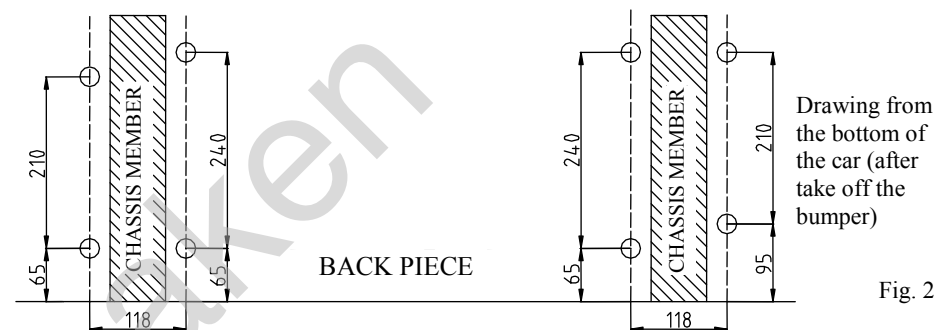

Fig. 2
- Point out holes from the bottom of the car according to the fig. 2 (above). Then drill holes  $\varnothing 11\text{mm}$  (drillings fall out in places of the pressure welding of chassis members with the floor of the car) – make carefully and precisely.
- Apply properly large fish-plates (pos. 4 and 6) onto made holes (inside the trunk).